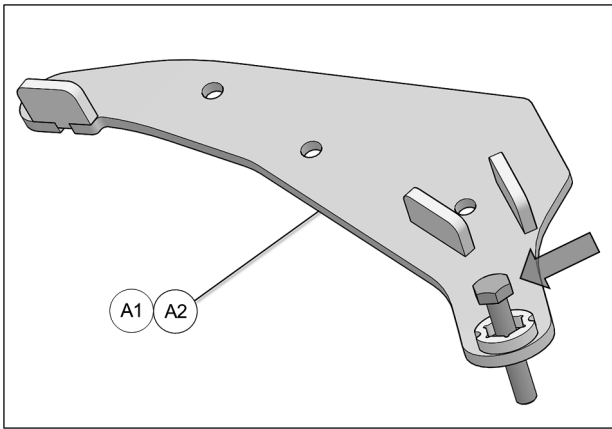

Fig. 15
4. Insert bolt in front anchor brackets (A1-A2) as shown in Fig. 15